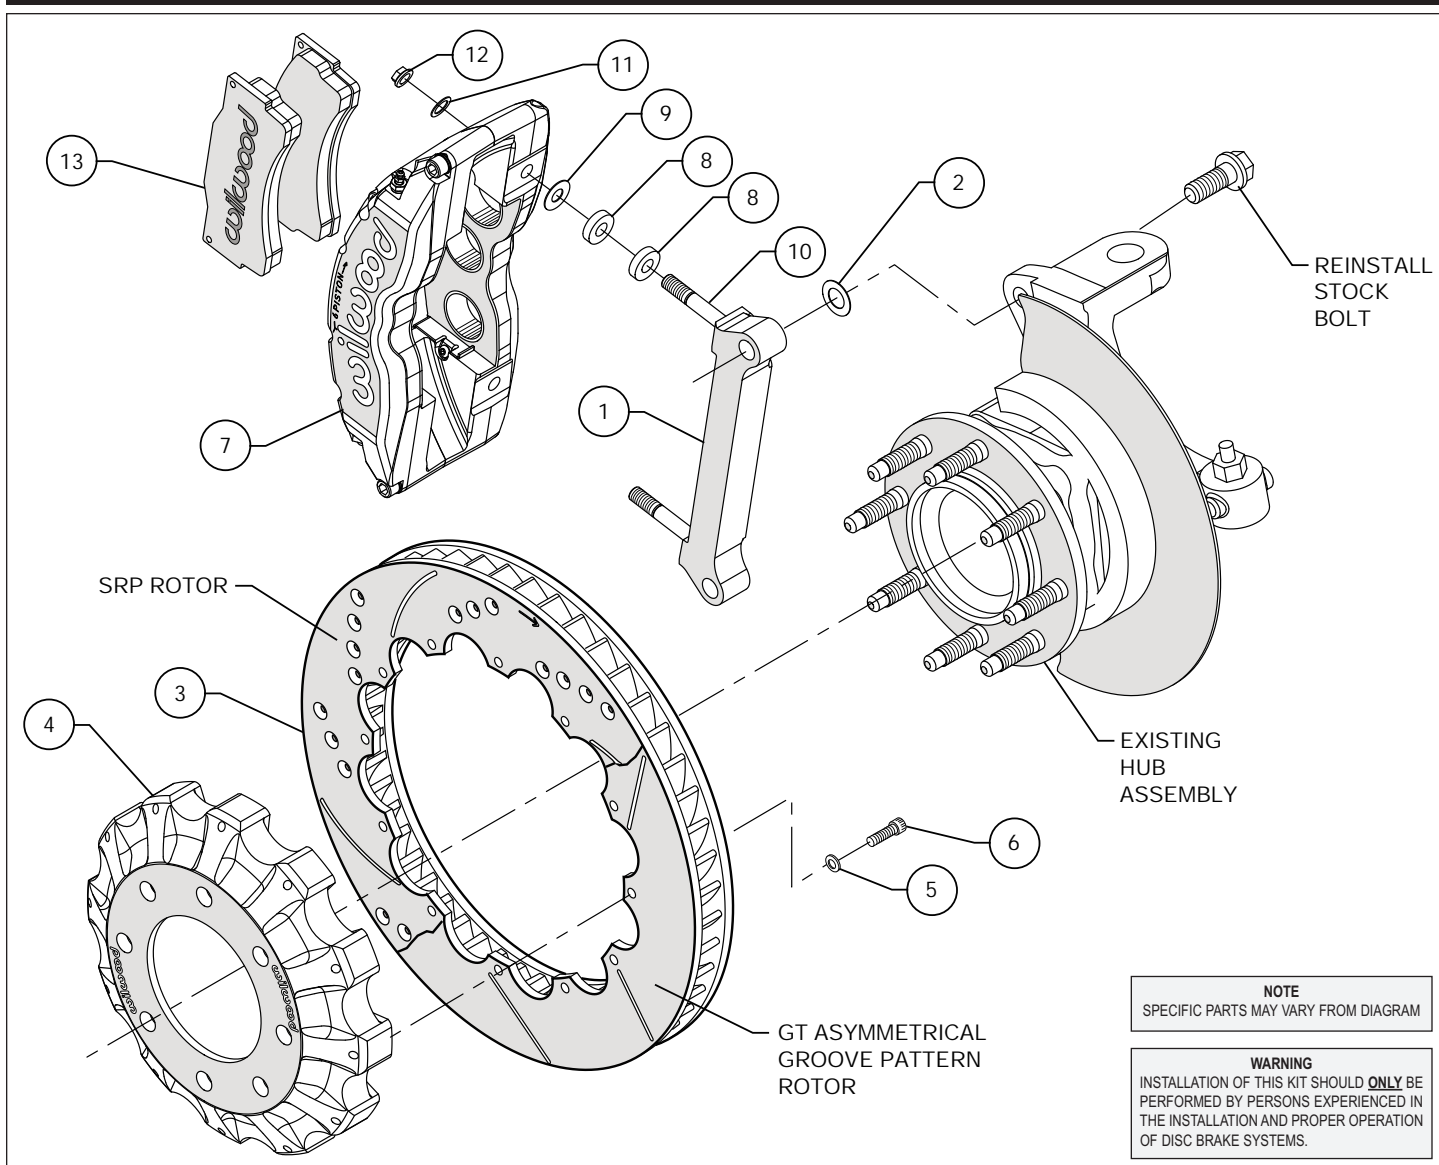

Figure 1. Typical Installation Configuration
•The caliper mounting bracket assembly (1) should be installed first with clean, dry threads on the mounting bolts. Install the bracket to the outboard side of the spindle by sliding the stock bolt through from the backside into the bracket(1). Place shim washer (2) between the bracket (1) and the spindle (see Figure 1). The bracket must tighten squarely against the side of the spindle body. Inspect for interference from casting irregularities, machining ridges, burrs, etc. Use one thin shim (2) between the bracket (1) and spindle during initial trial fitting.